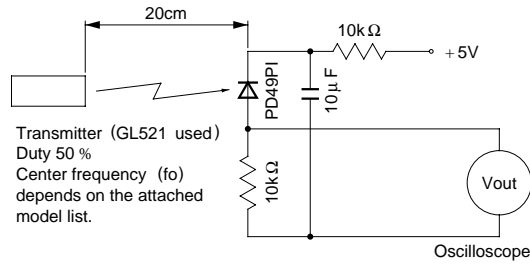
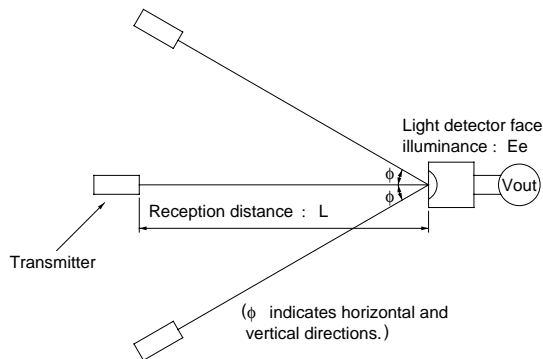

Fig. 1. Transmitter
Fig. 2. Standard optical system
*3 The burst wave as shown in the following figure shall be transmitted by the transmitter shown in Fig. 1.
Using the transmitter shown in Fig. 1, the output signal of the light detecting unit is good enough to meet the following items in the standard optical system in Fig. 2.
When $L=0.2$ to 6.5m , $E_e < 10\text{ lx}$ and $\phi = 0^\circ$ in Fig. 2, the output signal shall meet the electrical characteristics in the attached list.
When $L = 0.2$ to 4.5m , $E_e < 10\text{ lx}$ and $\phi \leq 30^\circ$ in Fig. 2, the output signal shall meet the electrical characteristics in the attached list.
When $L=0.2$ to 3m , $E_e \leq 300\text{ lx}$ and $\phi = 0^\circ$ in Fig. 2, the output signal shall meet the electrical characteristics in the attached list.